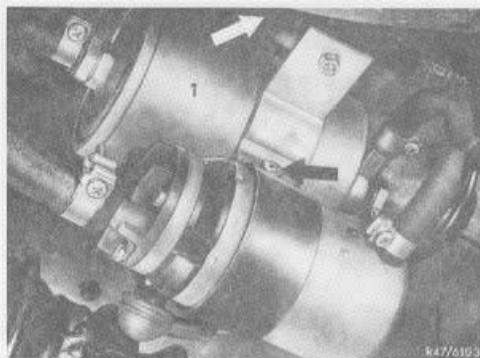

FIG. 22
2. The fuel filter (Fig. 22) should be renewed every 30,000 miles. A more frequent replacement may be advisable under unfavorable operating conditions.